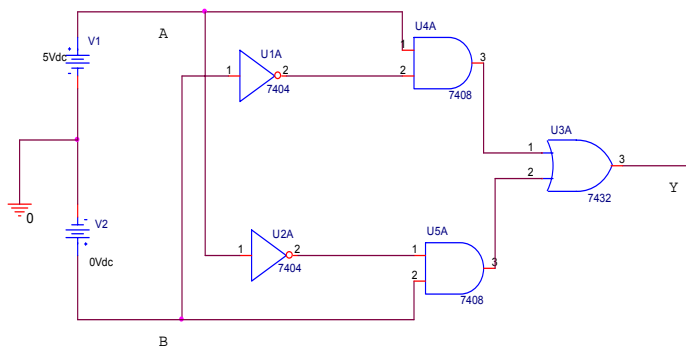

Fig 7-1
Step 1: Construct the circuit show in Fig. 7-1 on the breadboard